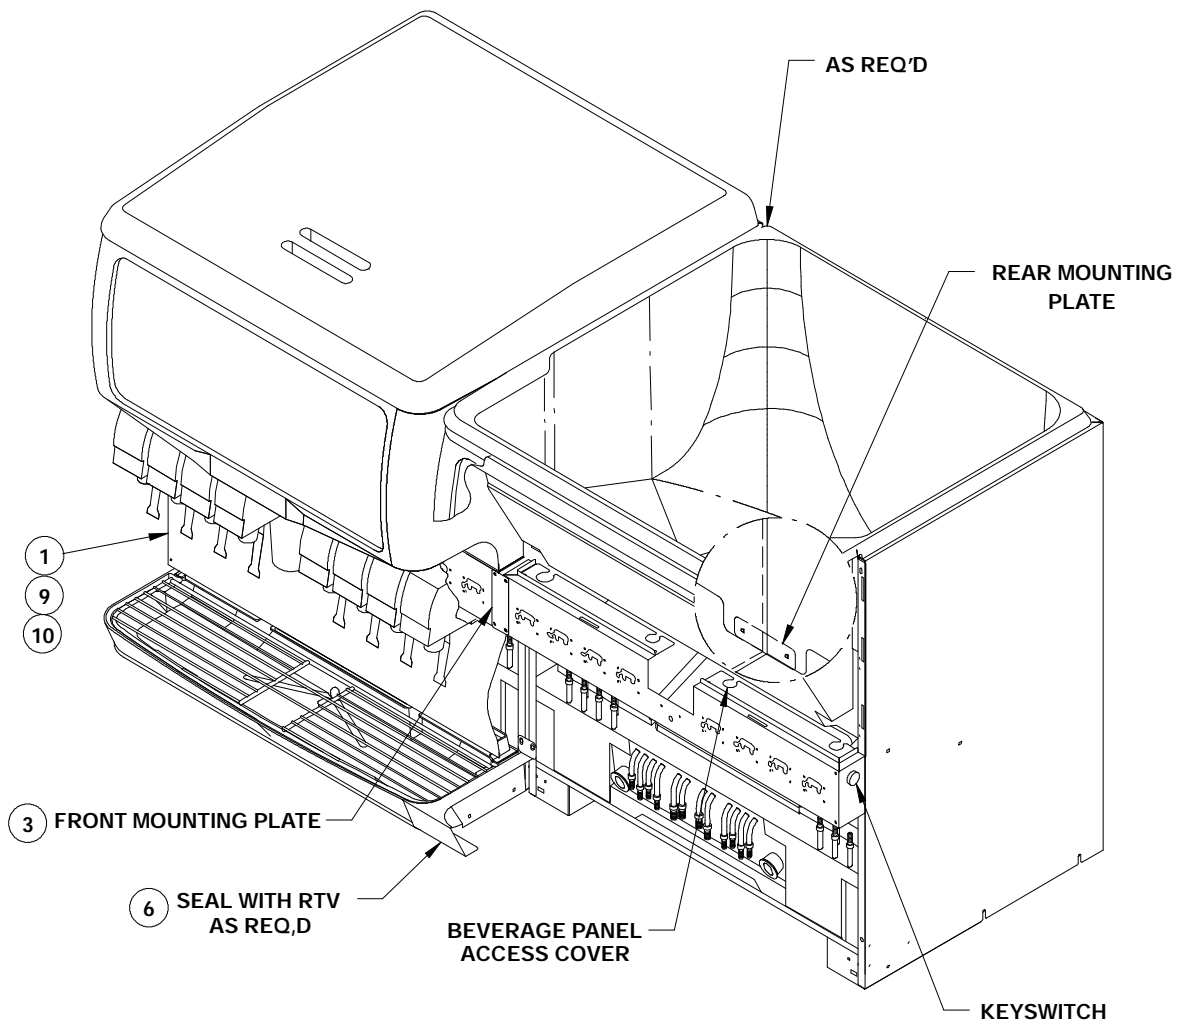

FIGURE 2.
7. Remove one screw from each base at the rear of the Unit and install rear mounting plate (item 2) to maintain the proper spacing between the Units (see Figure 2).
8. Install front mounting plate (item 3) using the four beverage panel mounting screws at the center of the Units. The rectangular plate is for use with the six or eight valve Units.
9. Apply RTV (item 5) at the gasket-cabinet joint to seal any gaps between the Units, on all sides of the gasket.
11. Assemble two long #8-32 screws (item 9) to lower panel (item 1) using plastic washers (item 10). Install lower panel assembly on Units.
12. Install Cornelius logo (item 11).